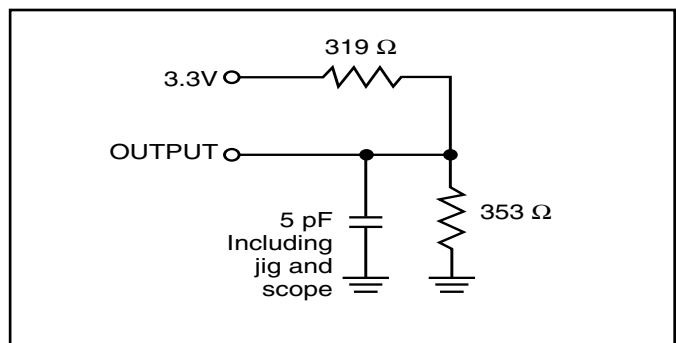

Figure 2.
2. Tested with the load in Figure 2. Transition is measured  $\pm 500$  mV from steady-state voltage.
2. Tested with the load in Figure 2. Transition is measured ±500 mV from steady-state voltage. Not 100% tested.
2. Tested with the load in Figure 2. Transition is measured  $\pm 500$  mV from steady-state voltage. Not 100% tested.